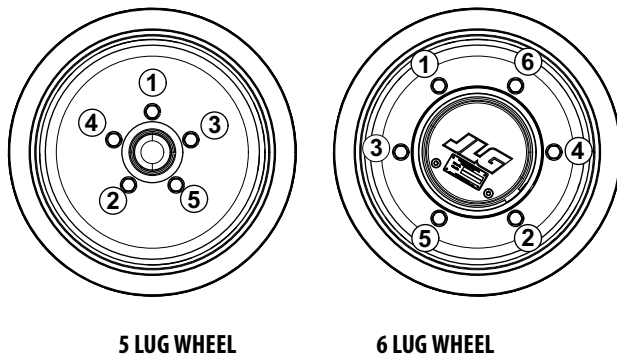

Figure 6-3. Wheel Lug Nut Tightening Sequence
2. Tighten lug nuts in the following sequence. (See Figure 6-3.)